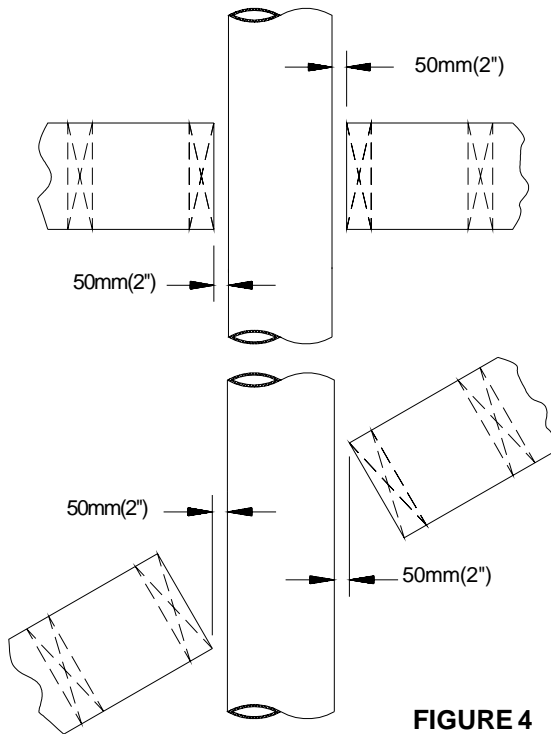

FIGURE 4
10. Joists should be fully framed at all levels, maintaining the required 50mm (2") minimum air space clearance from the outside of the chimney to the inside of the framing. See Figure 4 for minimum required framing.
1. Plan your chimney installation carefully. Lay out and frame in the required openings, ensuring the specified 50mm(2") clearance to combustibles is maintained. All openings should be square, plumb, and in perfect alignment with each other. See figure 4.
2. For sloping roofs, ensure that the framing dimension is measured in the horizontal plane. See figure 4.